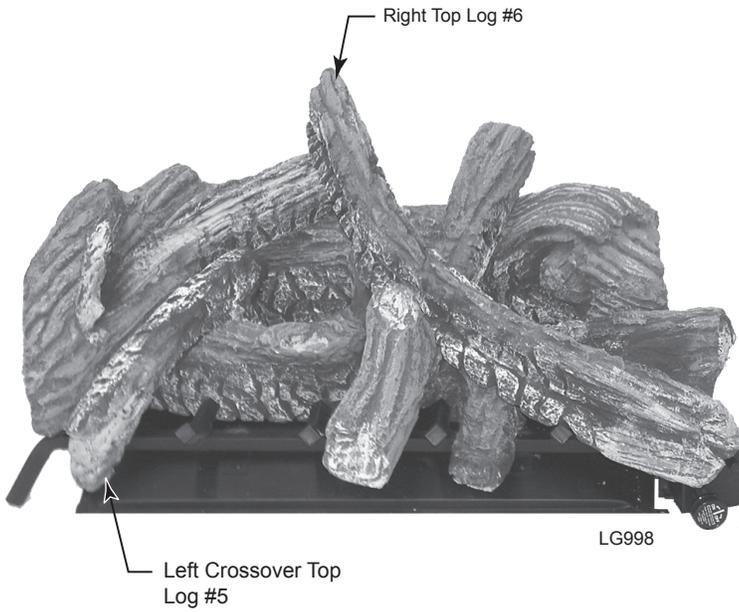

Figure 37
5. Place left top crossover log (#5) up against left top log. *Figure 37*
6. Rest right top log (#6) on center crossover log and front of grate. *Figure 37*